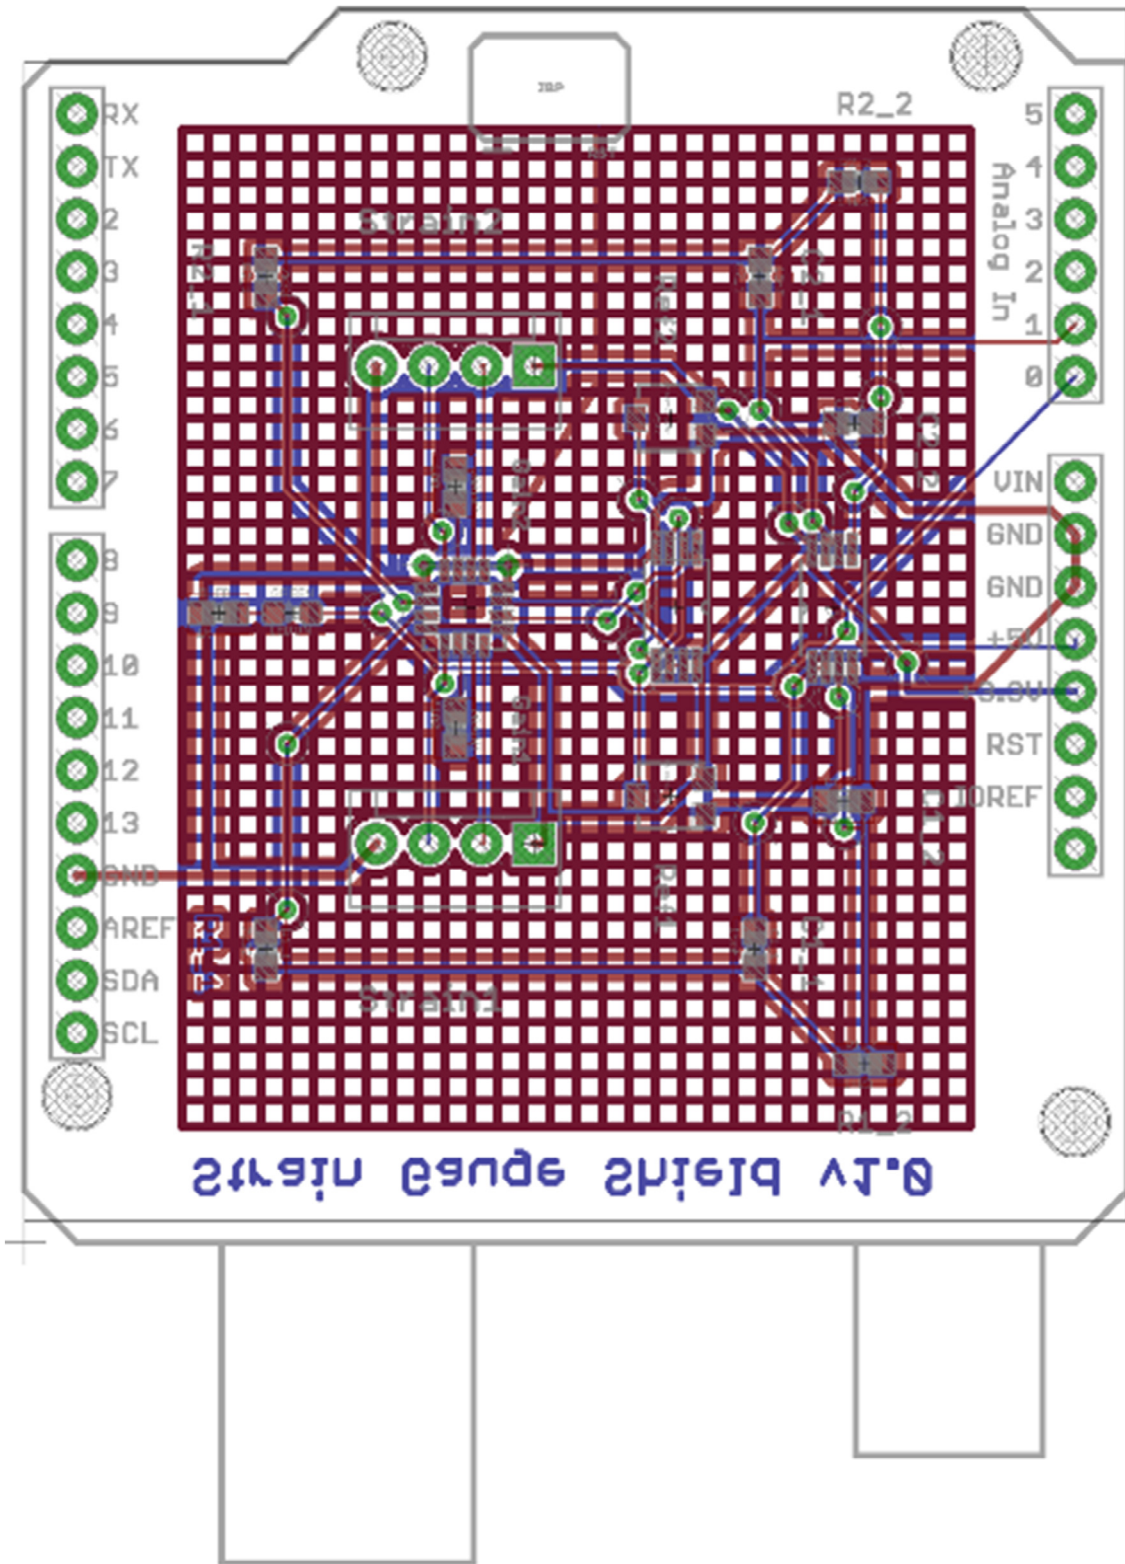

Figure 2: SGS Shield Board layout v1.0 with ground grid
- The gain (amplification) per channel through the amplifier is dependent on the resistor value  $R_{GAIN1/2}$  marked as Gain1/Gain2 on the board layout Figure 2: SGS Shield Board layout v1.0. The gain factor needs to be picked based on the specific application and sensitivity of the total Wheatstone bridge with the strain gauges incorporated.